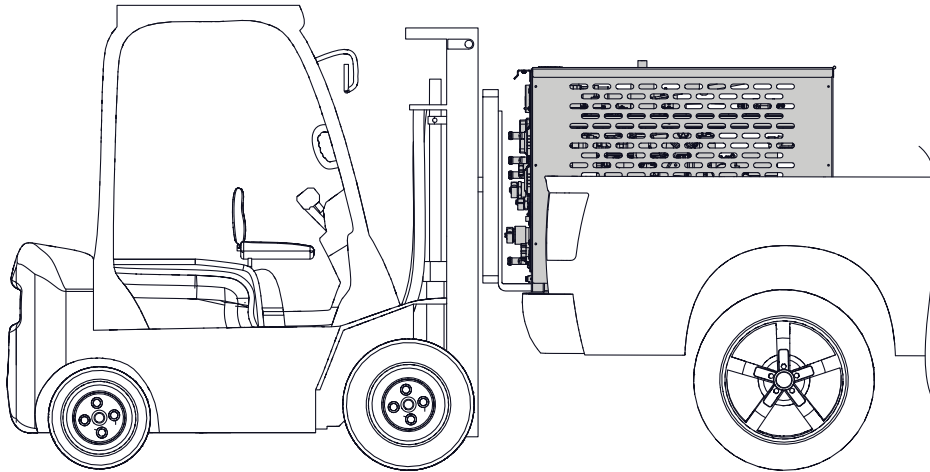

Figure 13
- 2 Use a forklift and the forklift openings to position the system into the install location (**Figure 13**).